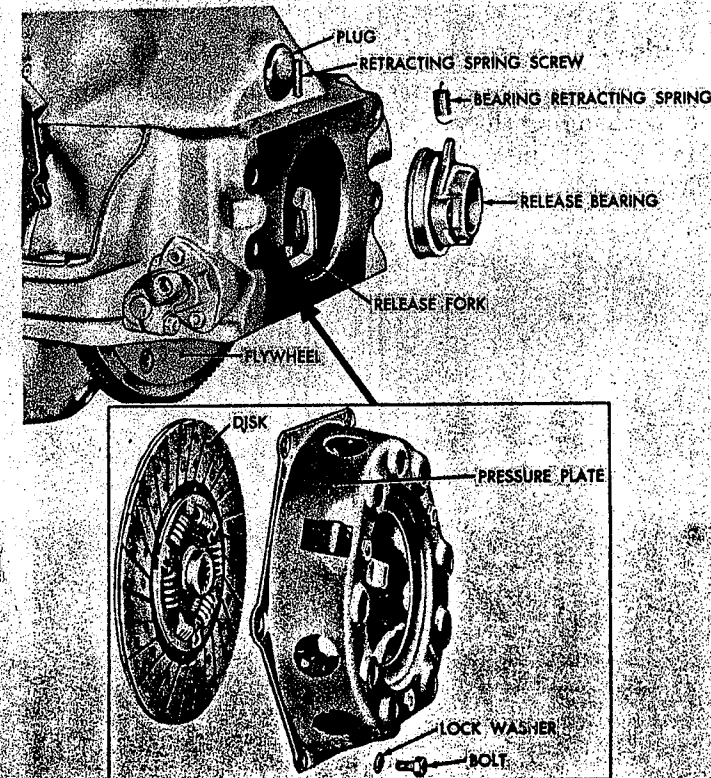

Figure 155. Clutch parts—exploded view.
- (1) The clutch (fig. 155) consists of the disk and pressure plate, clutch release bearing, and release fork which is actuated by the clutch pedal. The disk is splined to the transmission